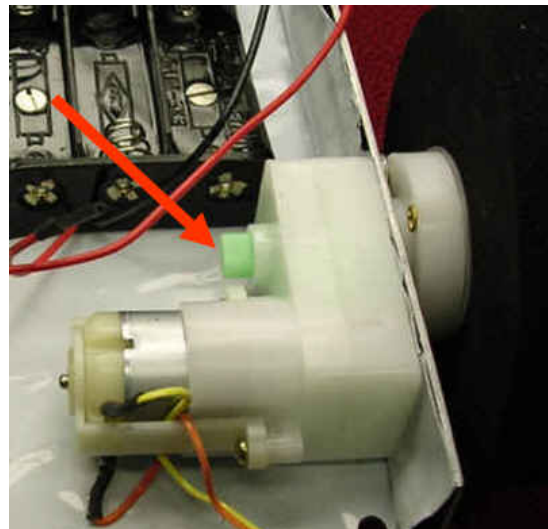

Figure 9. Mounting of wheel to motor.
3. To attach to the motors simply 'press fit' the adapters on the motor shafts. This is a very tight fit and will require quite a bit of force to mount the wheels. Place your finger on the back side of the shaft as shown by the red arrow in Figure 9 to prevent bending the chassis .